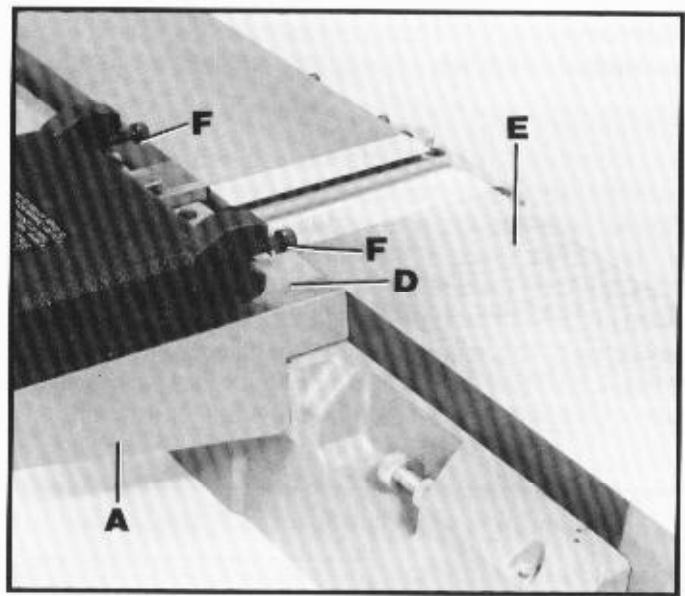

Fig. 6
NOTE: The top surface (D) Fig. 6, of the fence carriage (A) must be level with the top surface of the outfeed table (E), to enable the fence to slide easily.
2. Remove the two screws (F) Fig. 6.